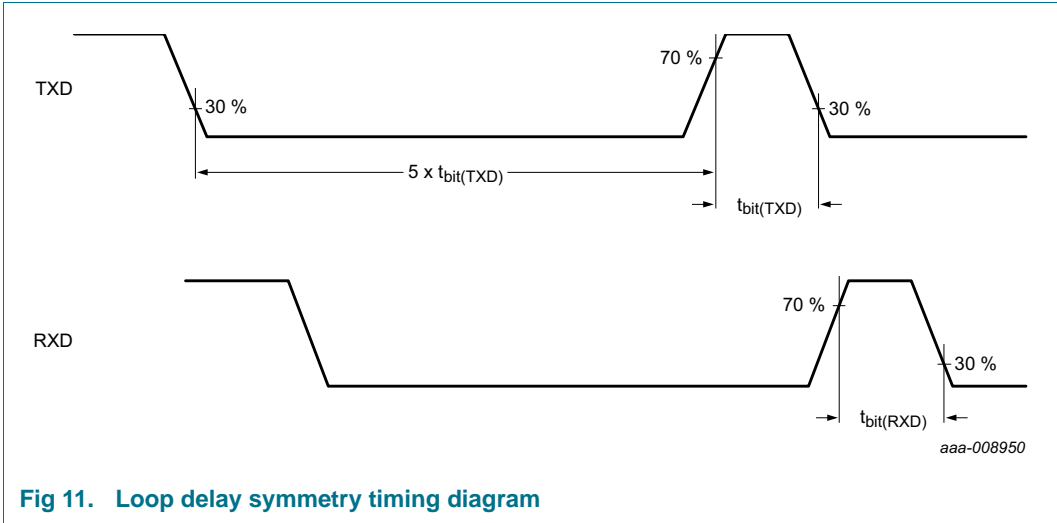

Fig 11. Loop delay symmetry timing diagram
- [2] See Figure 11.
Modifications:	<ul style="list-style-type: none"> • Section 1: text revised (2nd paragraph added) • Section 2.1: feature added (loop delay symmetry) • Table 2: table note amended • Section 6.1.1.4: last paragraph added • Section 6.1.1.6: text revised (3rd paragraph) • Section 6.1.1.7: text revised (4th paragraph) • Table 3: row CAN revised • Section 6.2.2: text revised • Section 6.3.1: text revised • Section 6.3.2: text revised • Section 6.7: text and state diagram revised • Table 14: description for bits CMC revised • Table 15: description for bit CTS revised • Section 6.10.3: note added at beginning of section • Section 6.15.1: text revised (4rd last paragraph); last paragraph added • Table 47: symbols and parameters revised for pins V1 and VEXT; parameters $t_{to(SPI)}$ and $t_{bit(RXD)}$ added; additional measurement for parameter $t_{d(TXD-RXD)}$; parameter $t_{fltr(rst)}$ renamed to $t_{w(rst)}$ and value changed; parameter values changed: t_{wake} for pin WAKE • Figure 11: added • Section 11.2: added • Section 12.1: text updated